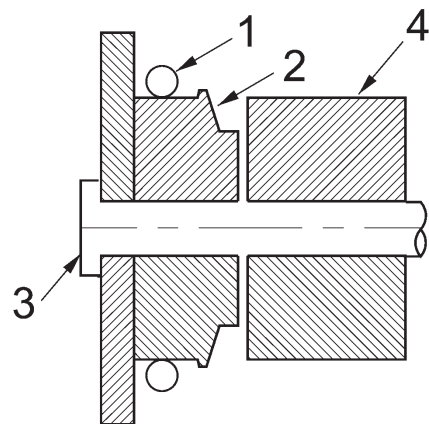

Figure 14
2. Move O-ring seal (1, Fig.14) onto bushing (2) , then , remove the bucket pin (3) and extract the bucket connecting rod(4) .
4. Align the bucket connecting rod cover and the bucket link pin hole, and install bucket pin (3, Fig. 14).